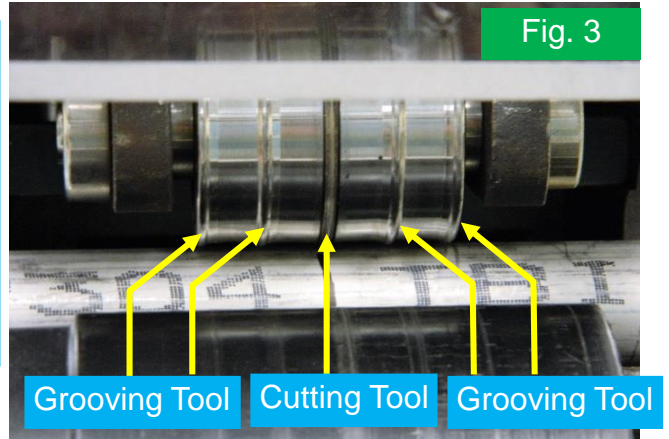

Fig. 3
- b) Remove the cutting and grooving tool as shown in Fig 3 from the machine. Please check any tear or wear on the cutting blade and grooving blade by the No-Go gauge. If both the blades cannot go through the No-Go gauge, there is no tear and wear on the cutting blade and grooving blade, put the tool back to the machine. If both the blades can go through the No-Go gauge, replace a new set of cutting and grooving blades.**